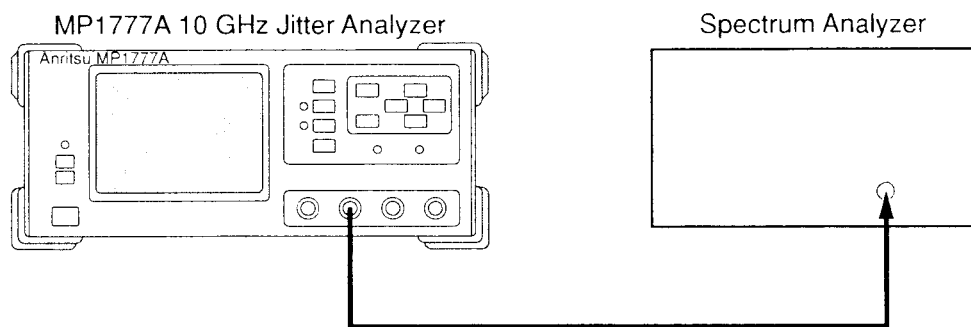

Fig. 6-1 Clock Output Level Performance Test
- (1) Connect the MP1777A 10 GHz Jitter Analyzer and the Spectrum Analyzer as shown in Fig. 6-1.
- (2) Set the Bit Rate to 9953M on the "Setup: Interface" screen.
- (3) Set the Tx Jitter = OFF on the "Test menu: Manual" screen.
- (4) Adjust the Spectrum Analyzer sensor frequency to 9953.28 MHz.
- (5) Check that the output level satisfies  $+5 \text{ dBm} \pm 3 \text{ dB}$ .
- (6) Change the Bit Rate on the "Setup: Interface" screen, and repeat 1 to 5.